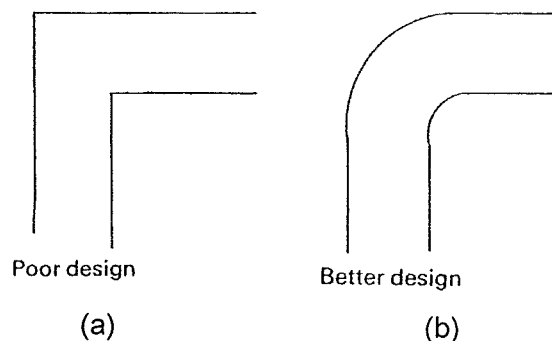

Figure 2 / Rajah 2
- (b). Two designs are given in Figure 2. Why design (a) is considered a poor design and design (b) as a better design?